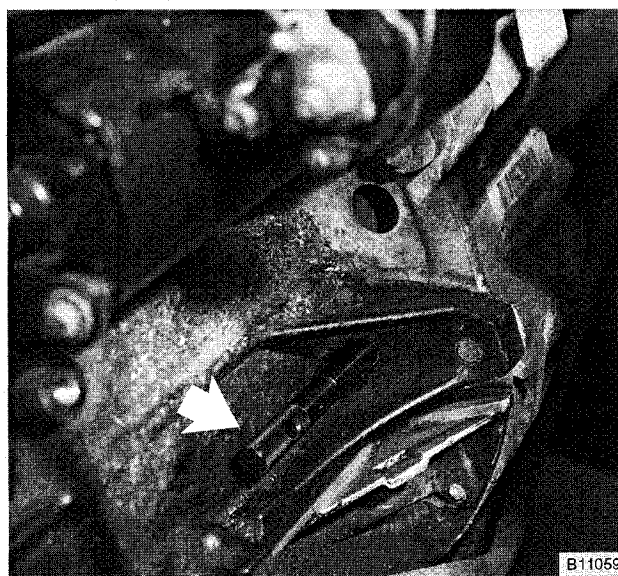

Fig. 34. Crankshaft locking tool (BMW special tool 11 2 300) inserted through bellhousing hole and into flywheel (arrow).
- Insert BMW special tool no. 11 2 300 through transmission bellhousing and into hole in flywheel or drive plate. See Fig. 34.